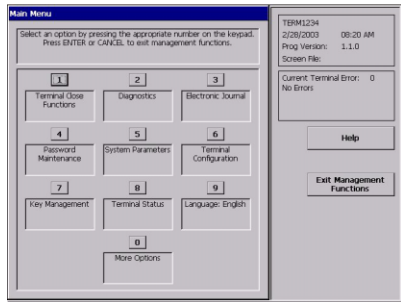

Fig. 7-3. Terminal main menu.
2. Enter the Master or User password at the Password Entry dialog prompt. The Management Functions main menu appears. (Figure 7-3)